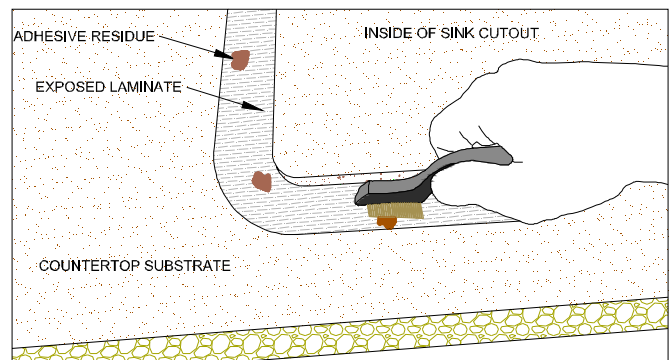

Figure 2C
- Using a wire brush remove any remaining substrate or adhesive residue from the exposed laminate. Blow off all residue with compressed air. (FIG. 2C)